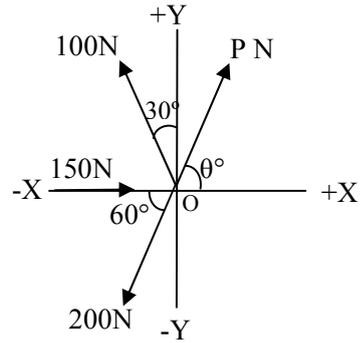

Fig. 3 Que 3(a)
**Q.3 (a)** A system of four forces shown in **Fig. 3**, has resultant 50 kN along  $+X$  – axis. Determine magnitude and inclination of unknown force  $P$ . **04**